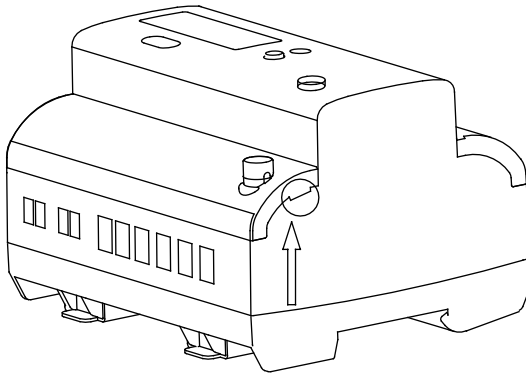

Figure 2.3.1
2. To attach the bottom terminal cover back onto the meter, place the left side of the cover down into the groove first and then press down onto the right side, see Figure 2.3.1. When installed correctly, you will hear a clicking sound. The steps to attach the top cover is to apply the right side of the cover down into the groove and press down onto the left side.